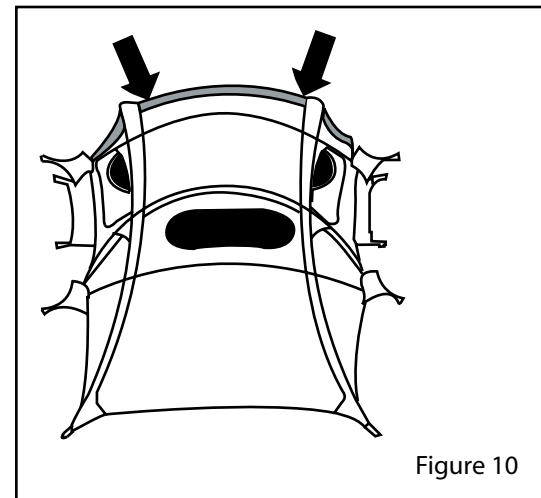

Figure 10
10. Locate the webbing that is sewn into the outer edge of the opening on the tent (Figure 10). This webbing will sit in the grooves in the top and bottom of the trailer.